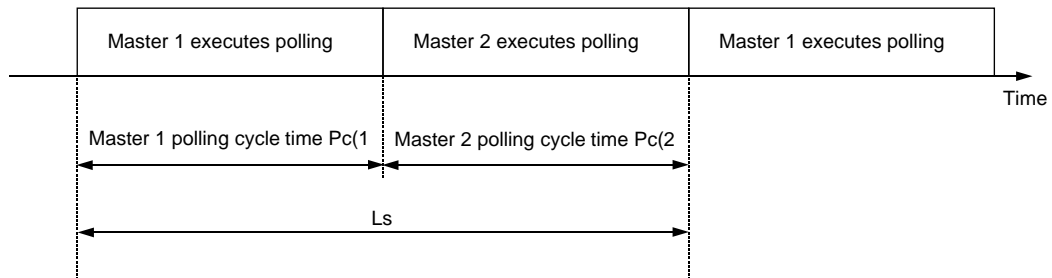

Fig. 6.2 The transmission delay time when multiple masters are connected
Following is an explanation of the transmission delay time when multiple masters are connected to the same network. The following diagram (Fig. 6.2) shows when 2 masters are connected to the same network. Pc(1) and Pc(2) in the following diagram (Fig. 6.2) are the master 1 and master 2 polling cycle times respectively, and their transmission delay time is calculated using the formula presented in Section 6.1.